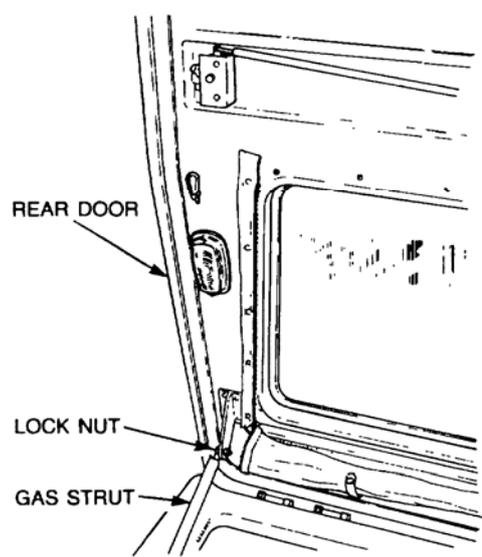

Figure 31 Upper Gas Strut Mounting Removal
- g. Unscrew the ball from the rear door frame (refer Figure 31).
- d. Screw the upper gas strut and ball into the door opening frame and tighten the lock nut (refer Figure 31).